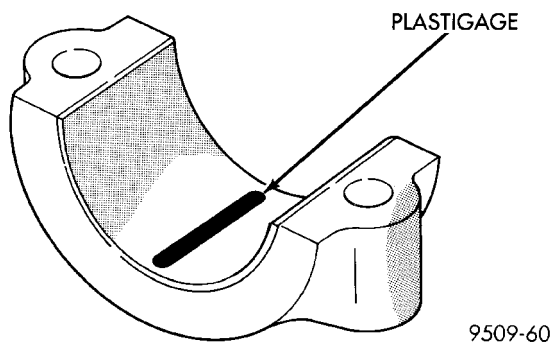

Fig. 3 Plastigage Placed in Lower Shell
- (1) Remove oil film from surface to be checked. Plastigage is soluble in oil.
- (2) Place a piece of Plastigage across the entire width of the bearing shell in the cap approximately 6.35 mm (1/4 in.) off center and away from the oil holes (Fig. 3). (In addition, suspected areas can be checked by placing the Plastigage in the suspected area). Torque the bearing cap bolts of the bearing being checked to the proper specifications.
the oil hole (Fig. 3). In addition, suspect areas can be checked by placing plastigage in the suspect area.